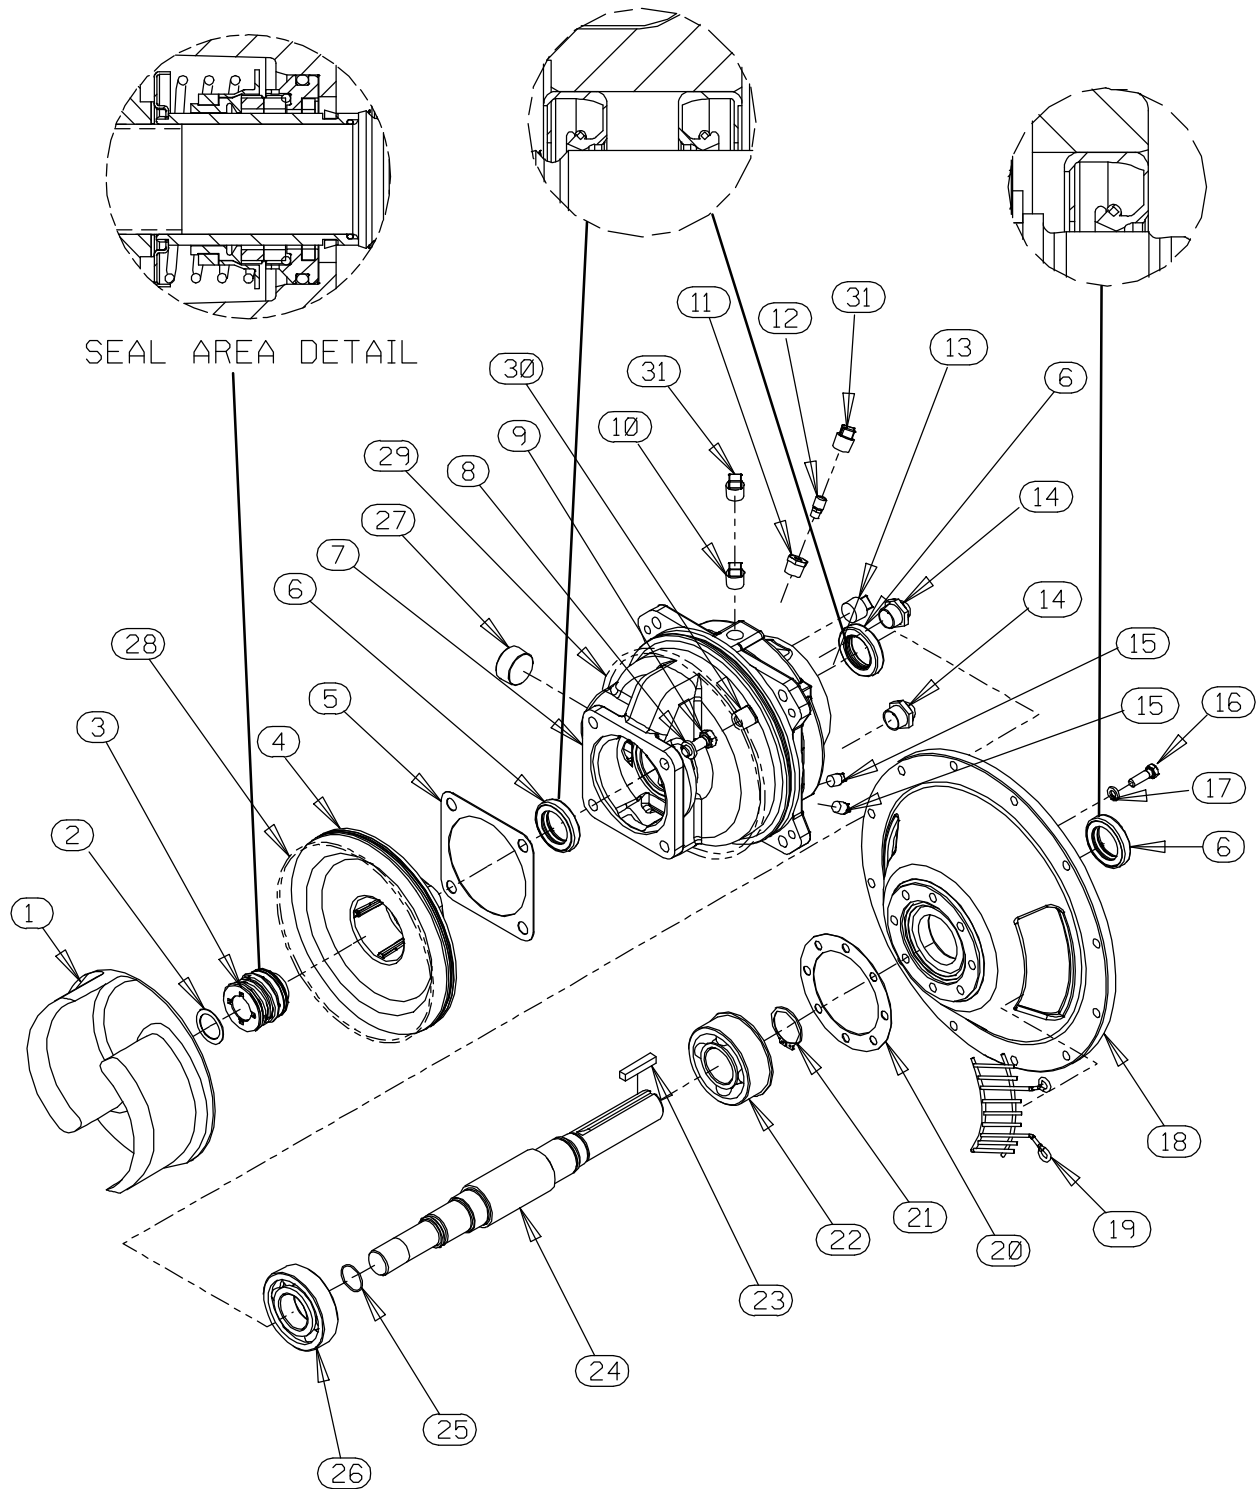

Figure 4. Repair Rotating Assembly
Further disassembly requires separating the pump end and drive assembly from the engine. Remove the hardware securing the check valve/air release valve assembly (33, Figure 4) to the pump casing. Disengage and remove any additional components necessary for the removal of the pump end.
Disengage the hardware (not shown) securing the coupling kit (35, Figure 3) to the engine bellhousing, and remove the guards (19, Figure 4). Separate the pump end and drive assembly from the engine by pulling the pump end straight away from the engine.
As the assemblies separate, the flexible portion of the coupling assembly (2) will remain on the shaft. To remove the coupling from the shaft, unscrew the two allen head setscrews from the bushing (1). Screw one of the setscrews into the puller hole on the circumference of the bushing. As the coupling and bushing separate, remove the bushing, and slide the coupling off the shaft. Remove the shaft key (23, Figure 4).
(Figure 4)